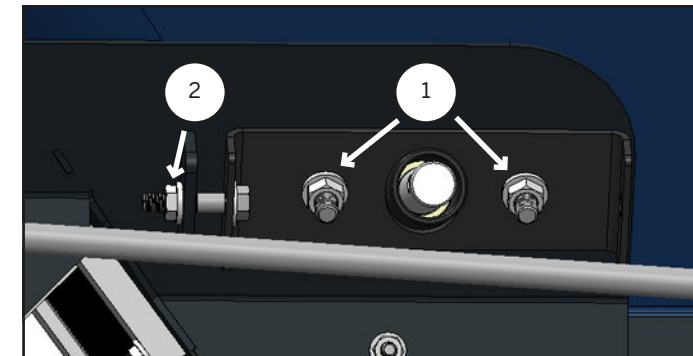

Figure 11.7.5
2. Loosen bolt #1 by a few turns. (Fig 11.7.5)